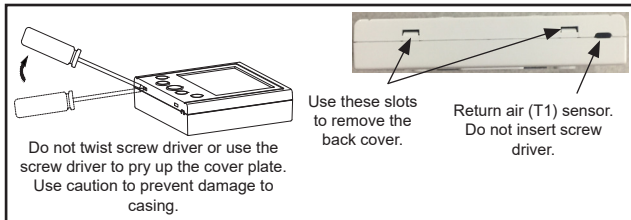

Figure 2. Do Not Damage Casing
2. Do not twist the screw driver or use the screw driver to pry up the face plate or the casing could be damaged. Use caution to avoid damaging the controller. Do not insert the screw driver in the T1 Return Air sensor hole. See Figure 2.